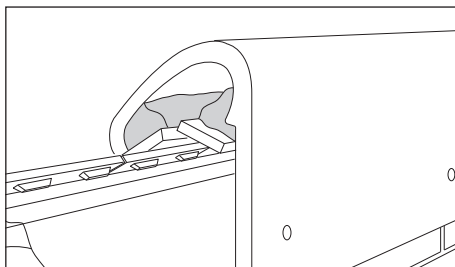

Fig. 16 – Bedded mono-ridge with 2 mechanical fixings
- 2 Lay mono-ridge tiles for Plain and Interlocking profiles as standard ridge tiles and mechanically fix each by using 2 No. 50mm x 10g stainless steel screws (supplied) to timber fascia behind vertical leg (Fig. 16, page 47).